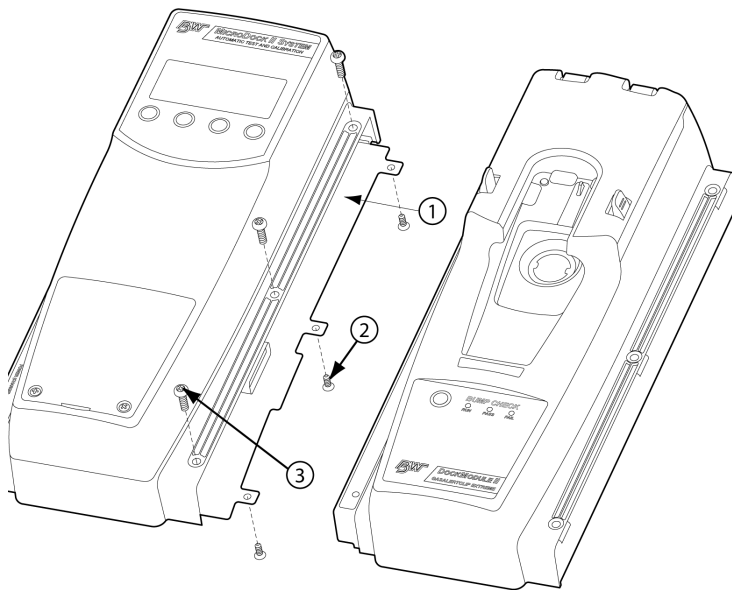

Figure 20. Detaching the GasAlertClip Extreme Module
3. Gently separate the docking module from the base station or other docking modules. Refer to Figure 20.